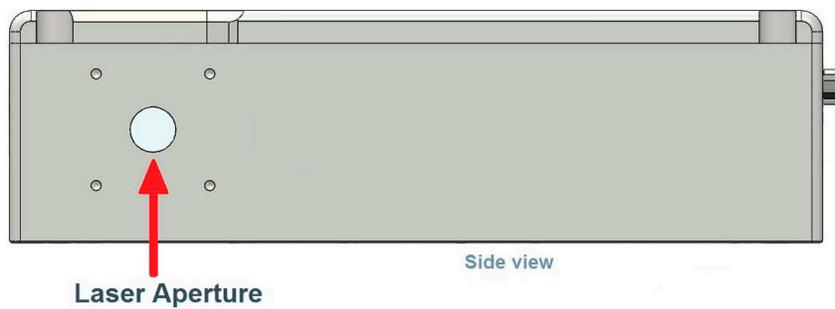

Figure 8-29. Laser Aperture and Mount Location
5. Set the fiber launcher over the CellX aperture at the side of the unit. Make sure that it is aligned to the four mount screw holes. Refer to Figure 8-29.